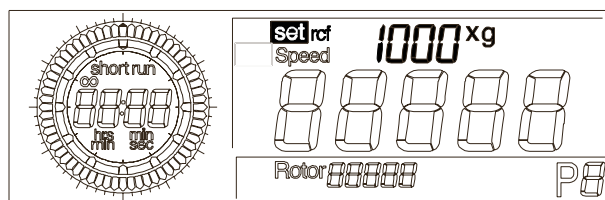

Fig. 5.13:
- Turn the left rotary knob until the "set" cursor appears in front of the parameter "rcf" on the display (Fig. 5.13).